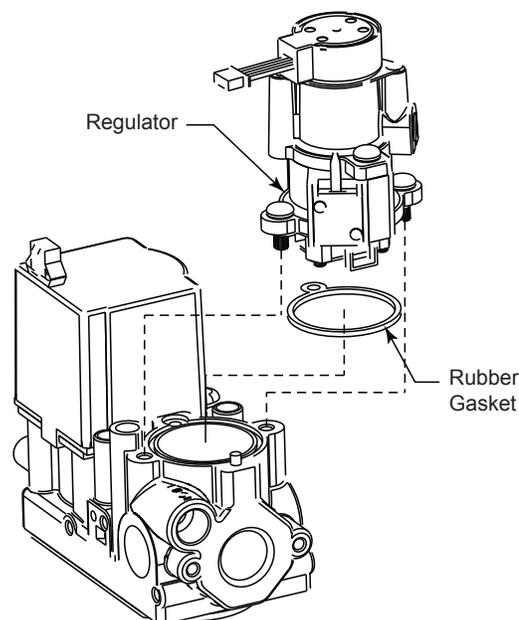

Figure 72
3. Remove the two (2) left lenses placed in front of the burner.
6. Using the Torx T20 driver or slotted screwdriver, remove and discard the regulator and rubber gasket in the face of the valve. *Figure 72*